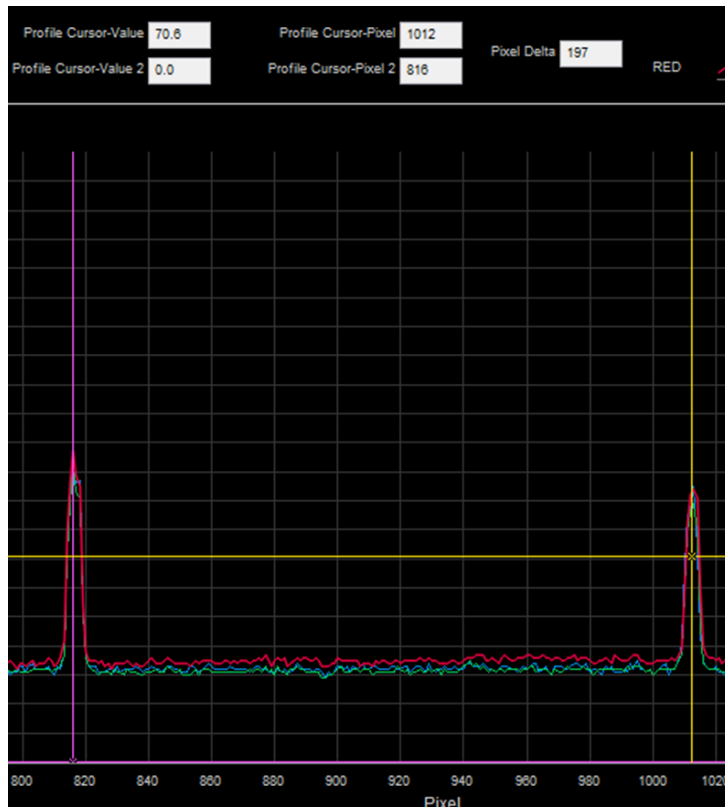

Figure 12. Cursor placement on the QP 101's centimeter marks in Profile graph.
4. Use the graph controls and expand (zoom) the graph horizontally (Figure 12).